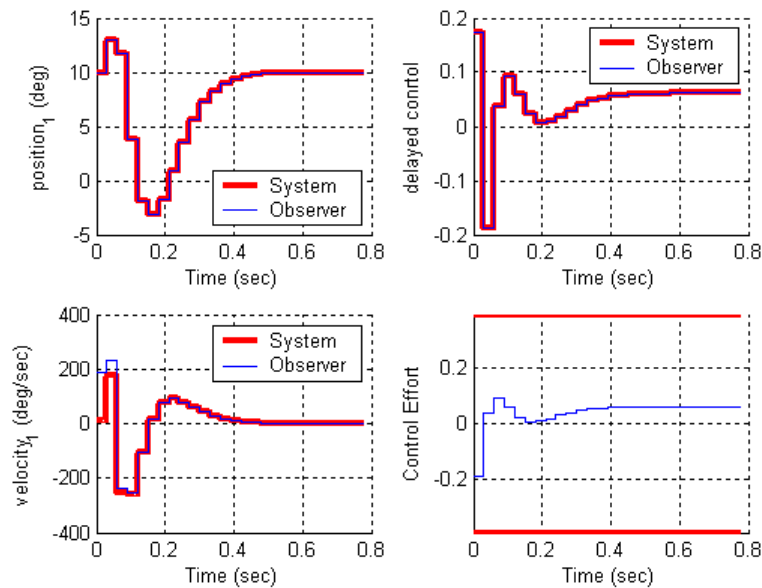

Figure 6. Results for problem 2d.
d) Now assume the same conditions as part c, but with a sampling interval of 0.03 seconds, For a 10 degree step input you should get the graph shown in Figure 6. Turn in your plot.